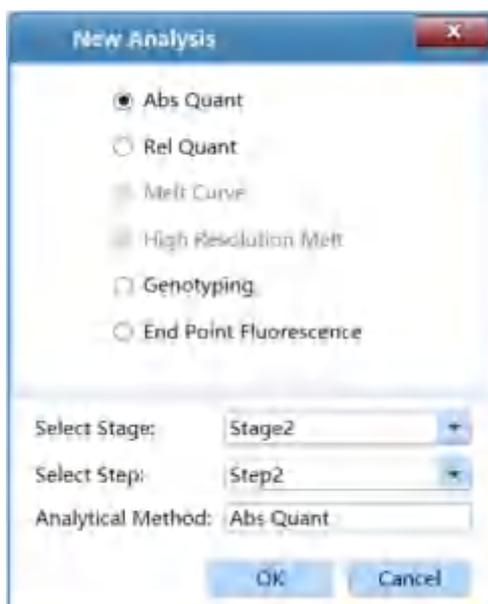

Figure D-7. New Analysis window
- ▶ User can click <  **New Analysis** > icon in Tool Bar and the application software will automatically pop up the new analysis window, as shown in figure D-7.